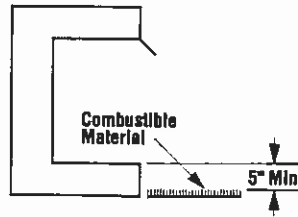

Figure 5
Step 5. Floor clearance: This firebox must be installed at least 5" above any combustible flooring material, such as carpeting or asphalt tile, which is closer than 14" to the base of the firebox (Figure 5).